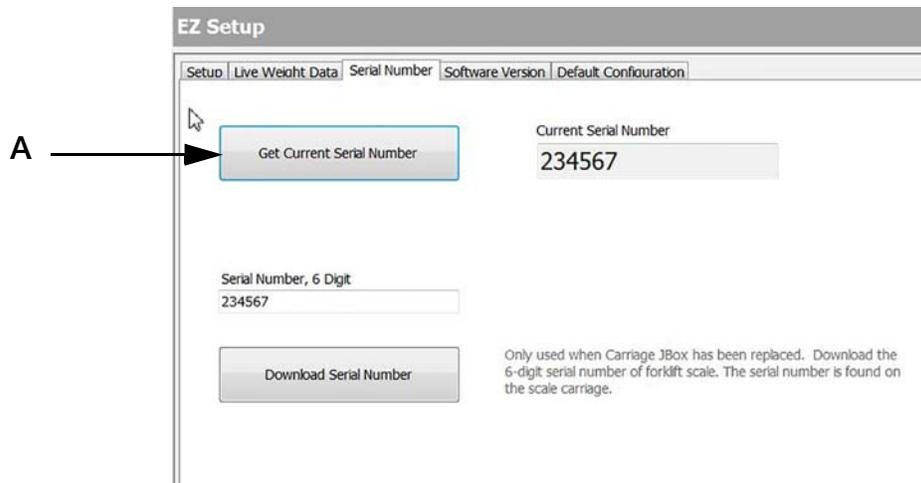

Figure 4-29. EZ Setup Screens - Setup
Figure 4-29 appears with several tabs: **Setup**, **Live Weight Data**, **Serial Number**, **Software Version** and **Default Configuration**. **Serial Number** will be used for entering the current serial number of the scale in the following sections and allows the serial number to be downloaded in normal weighing mode.
2. Select the **Get Current Serial Number** (Figure 4-29 A) button to get the current serial number.
3. If the j-box has been replaced and a new serial number must be entered, enter the new 6-digit serial number from the forklift scale and press the **Download Serial Number** button (B) to save the new serial number. Once the serial is download, a message **Serial Number sent to device** is displayed on the screen. Press **OK** to accept that number.